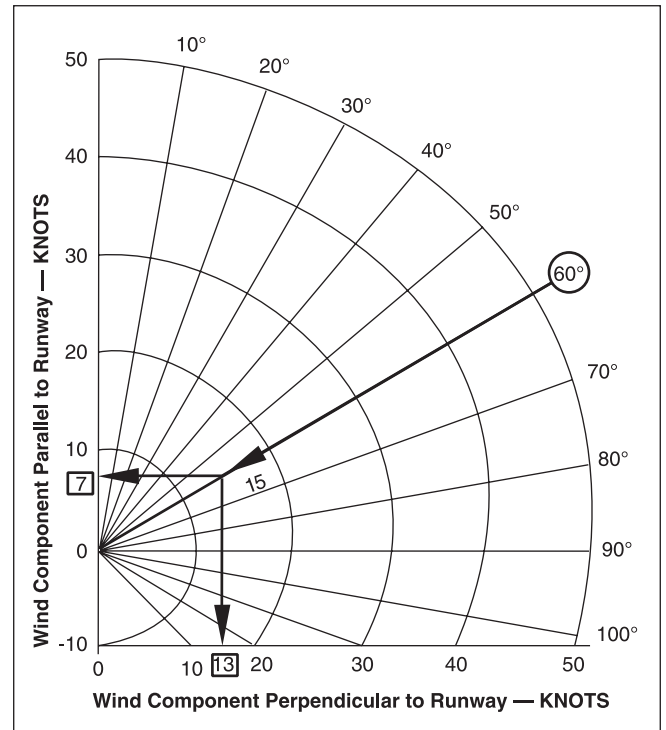

Figure 8-3. Wind components
- Find the intersection of the 60° angle radial line and the 15-knot wind velocity arc on the graph. From the intersection move downward and read the crosswind component of 13 knots. From the point of intersection move to the left and read the headwind component of 7 knots. See Figure 8-3.